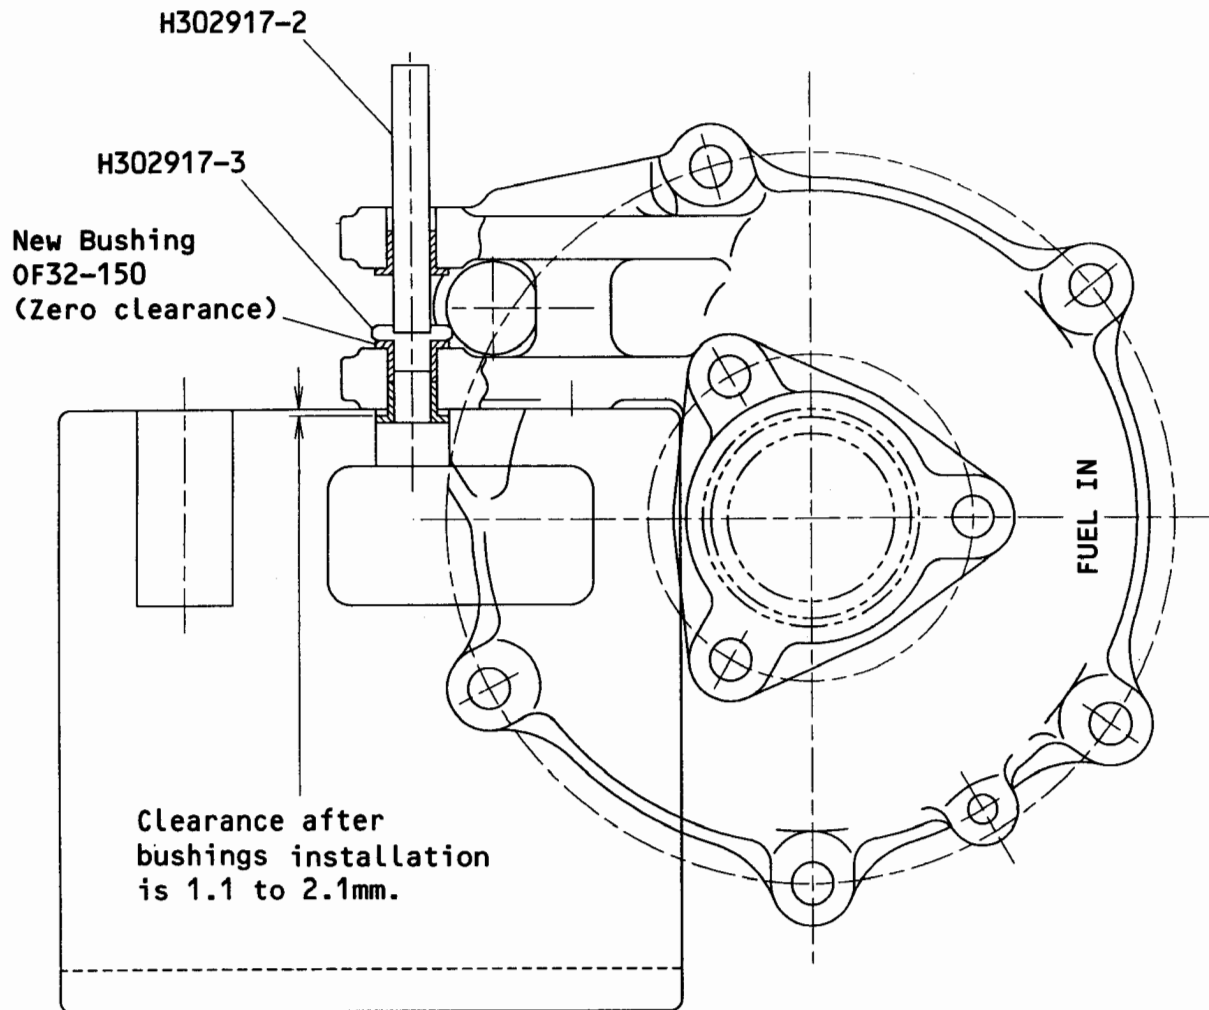

Figure 5 Set-Up Inserting Bushing (OF32-150)
- (l) Set up the Header, the Bushing and the Tools as shown on figure 5.
- (5) To assemble the unit, use the procedure shown below:
- (6) Perform proof pressure test and proof leak check in accordance with the CMM 79-21-43.